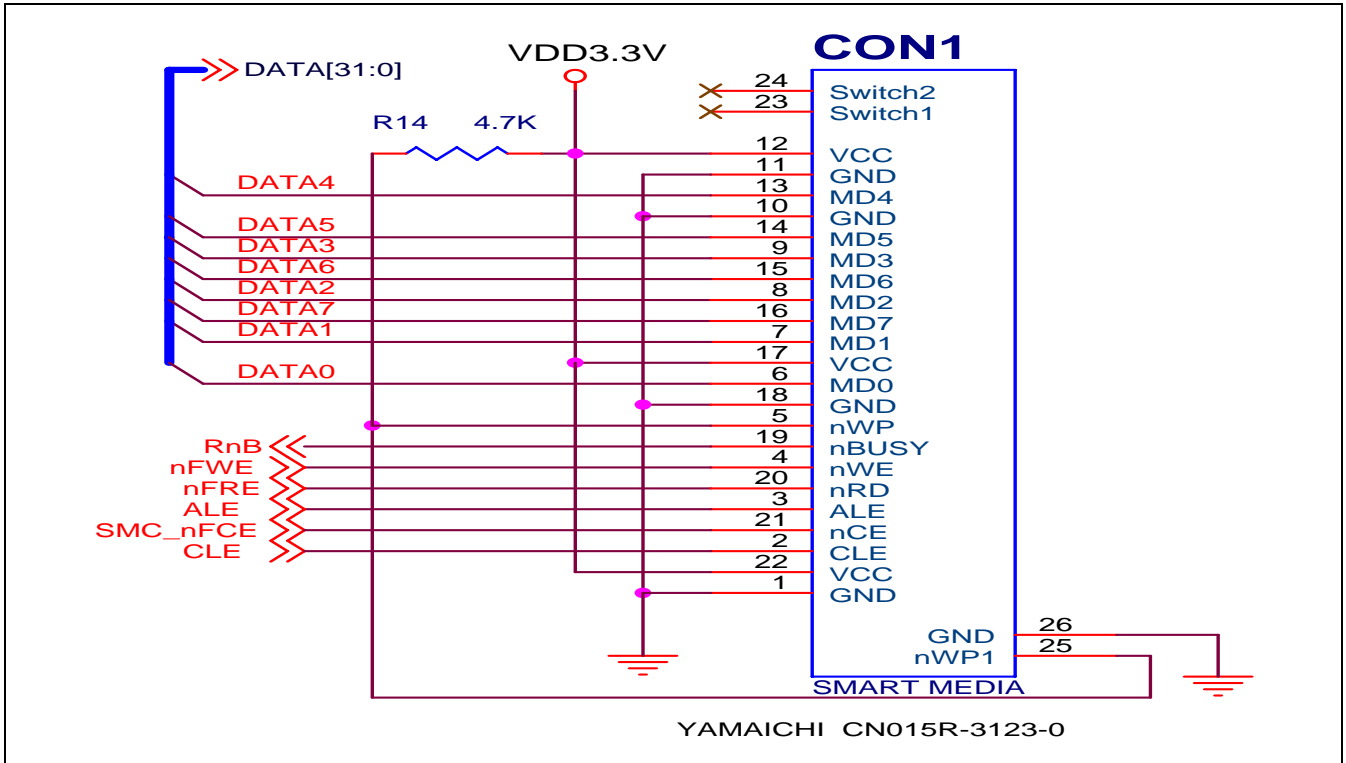

Figure 4-18. NAND Flash Circuit Example
Figure 4-18 shows a design with NAND boot memory. All applications processor signals are connected to the socket.
- LP104V2-W (262,144 color TFT LCD, 10.4") from LG Philips (refer to Figure 4-18)